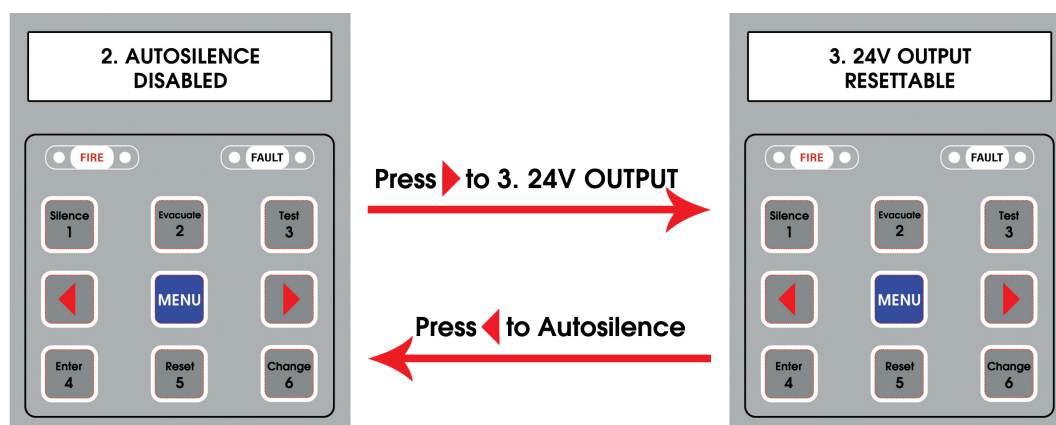

Fig.37 24V Output Activation
- ✿ The user can press on left and right arrow keys for movement between autosilence and 24V\OVP as in (Fig.37).